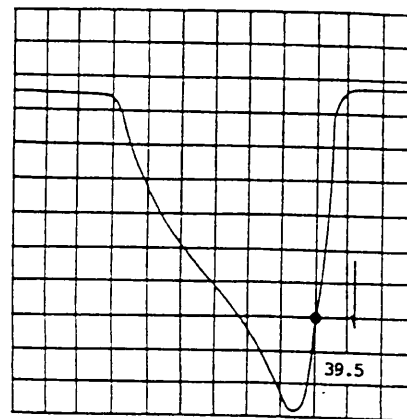

Fig 2.
Tank Coil Alignment Step (see fig 2)
- 5: Turn T101 until the marker 39.5 MHz falls to the lowest point as fig 2.